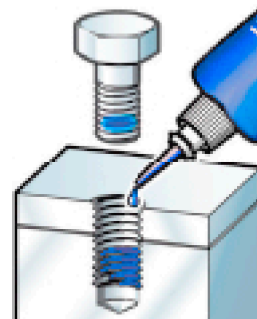

FIG 2
3. Apply several drops of adhesive down the sides of the blind hole filling the lower third. Apply several drops to the bolt, Assemble and tighten (FIG 2).